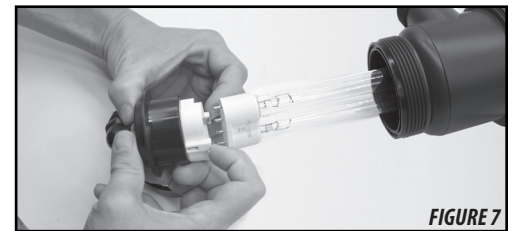

FIGURE 7
2. Slide UV bulb partially out of the unit. Disconnect the socket from the bulb by compressing the metal tabs in the socket and gently rocking and slowly pulling the bulb from the socket. (FIGURE 7)